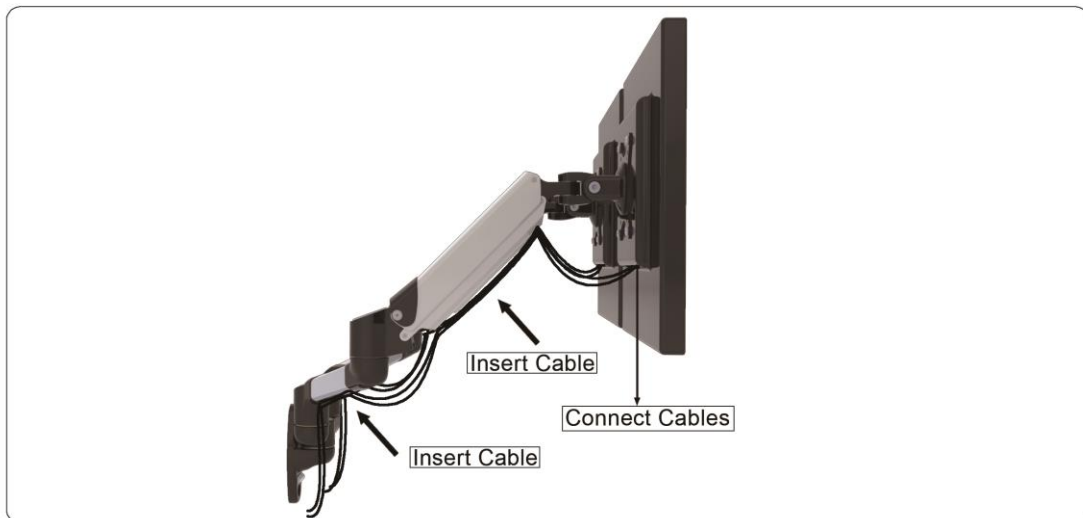

Figure 4-1
1. Adjust the arm to its fully extended position to ensure that the cables are not stretched or pulled when the monitor is moved. Connect cables to monitor (**See Figure 4-1**).